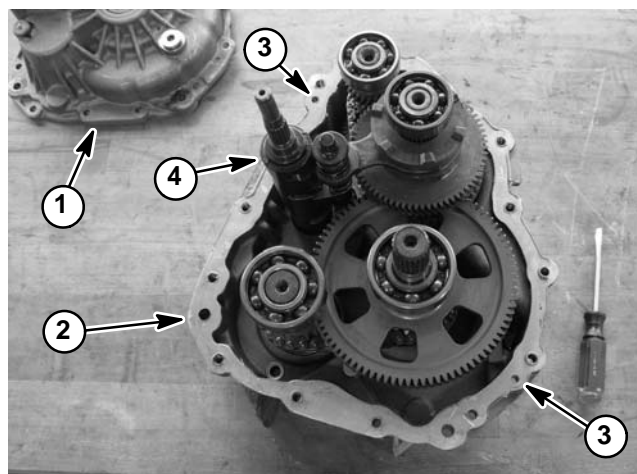

Figure 67
8. Carefully lower shift drum (Fig. 55 item 29) into transmission while engaging the drum slots to the shift fork pins (Fig. 67).